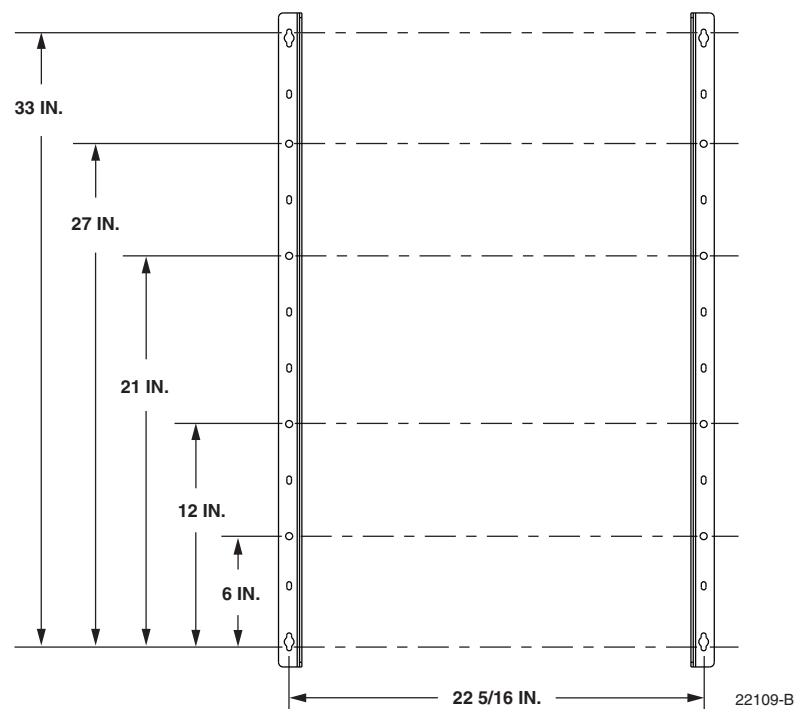

Figure 11. Hole Locations For Wall-Mount Installation
3. Using Figure 11 as a guide, mark the location of the cabinet mounting holes on the plywood backer.